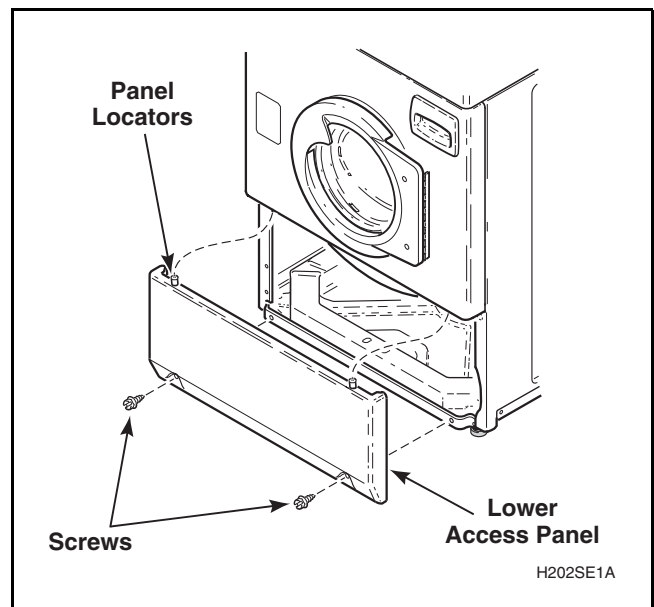

Figure 28
- a. While supporting the lower access panel, remove two screws from bottom edge of lower access panel. Refer to *Figure 28*.
- While supporting the lower access panel, remove two screws from bottom edge of panel and remove panel. Refer to *Figure 28*.
- a. While supporting the lower access panel, remove two screws from bottom edge of panel and remove panel. Refer to *Figure 28*.